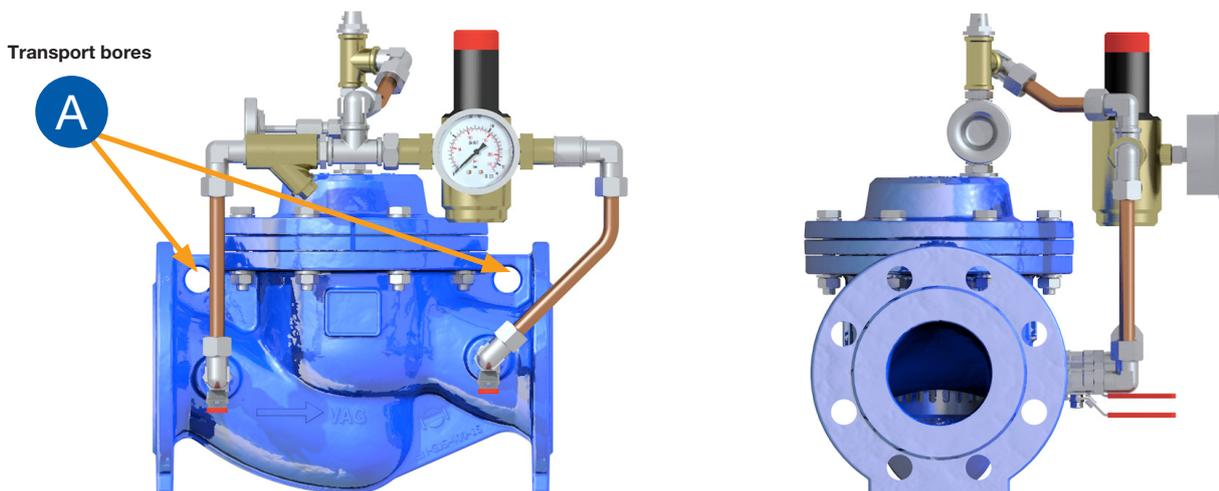

Figure 2: Transport position
For transport purposes and also to support assembly, lifting devices such as cables and belts must only be attached to the transport bores provided (A) at the top of the body (see Figure 2). Select the length and position of the cables and belts so that they ensure the horizontal position of the valve during the entire lifting procedure.